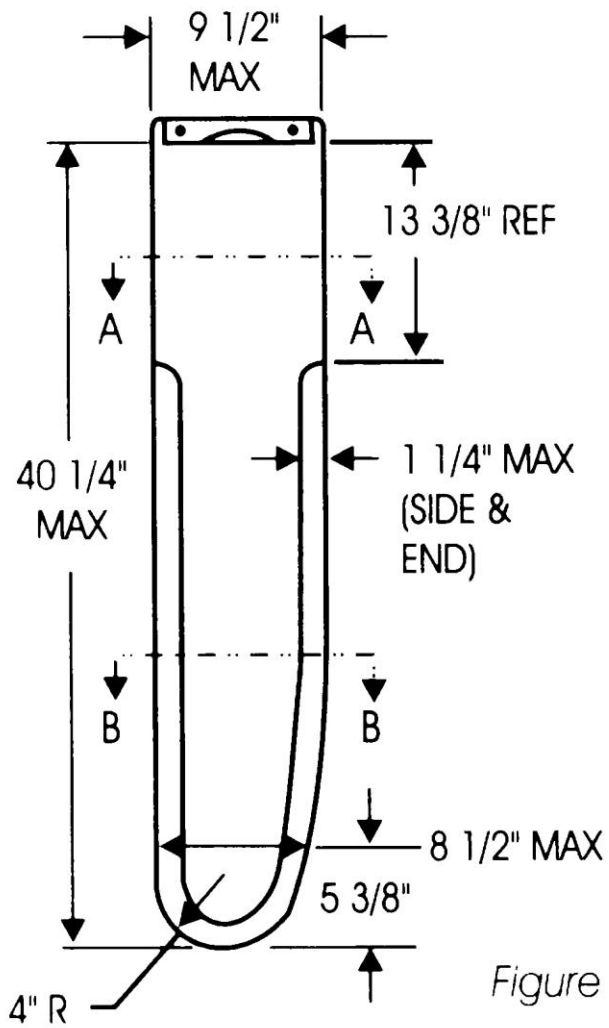

Figure 1
- 3.2.2** A handle may be attached to the top of the daggerboards (shown in Rule 5 Figures 1 & 3) for the sole purpose of raising and lowering the daggerboard.
- 3.2.3** Minor adjustments may be made to the daggerboards (shown in Rule 5 Figures 1 & 3) by way of sharpening the trailing edge, rounding the leading edge, refinishing or repairing damage provided that the daggerboard has dimensions in accordance with the measurement diagram. Refinishing may include covering the daggerboard with fiberglass and/or resin.
- 3.2.4** Modifications may be made to strengthen daggerboard handles provided the distance from the underside of the handles to the end of the board does not exceed 40 ¼ inches. This applies to the daggerboards shown in Rule 5 Figures 1 & 3 only.